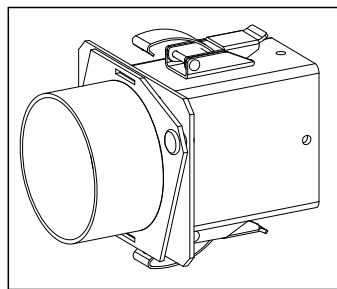

Figure 19.2
4. Attach the rear vent adapter to the exhaust blower housing with 4 screws. **Figure 19.2.**